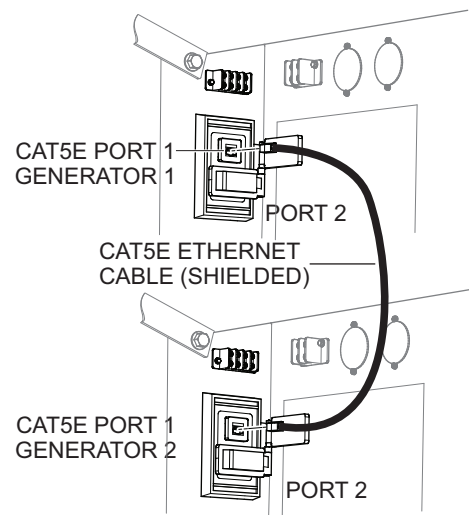

Figure 4. Ethernet Cable Connection
1. Connect a CAT5E ethernet cable (shielded) between port 1 on both generators as shown in Figure 4.